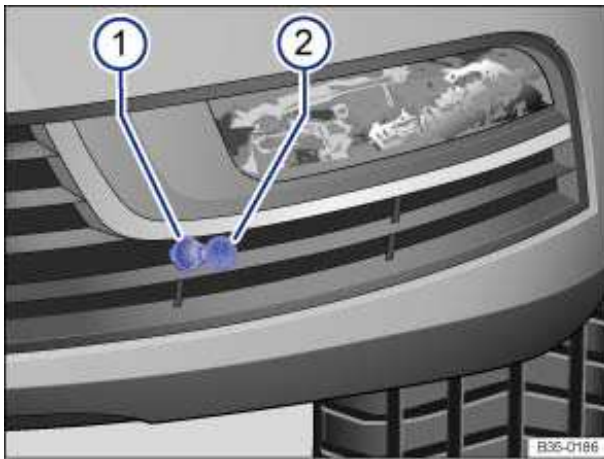

Fig. 112 In the front bumper: Connection socket 2 for the engine preheating system.
- Open the cover ⇒ fig. 112 \(1\).